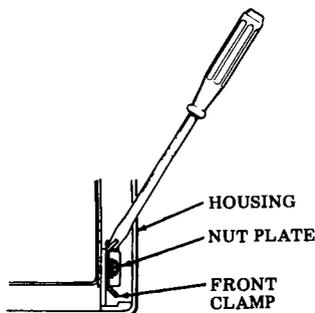

Fig. 3—Option Switch Access
3.02 Locate the option switch pack SPB6 (Fig. 3) on the logic card and activate the option switches in Fig. 9.